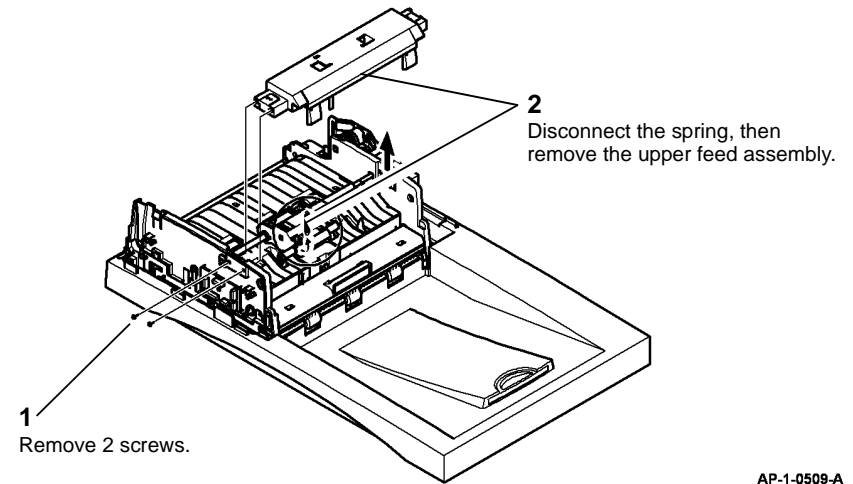

Figure 10 Upper feed assembly removal
11. Remove the upper feed assembly, Figure 10.